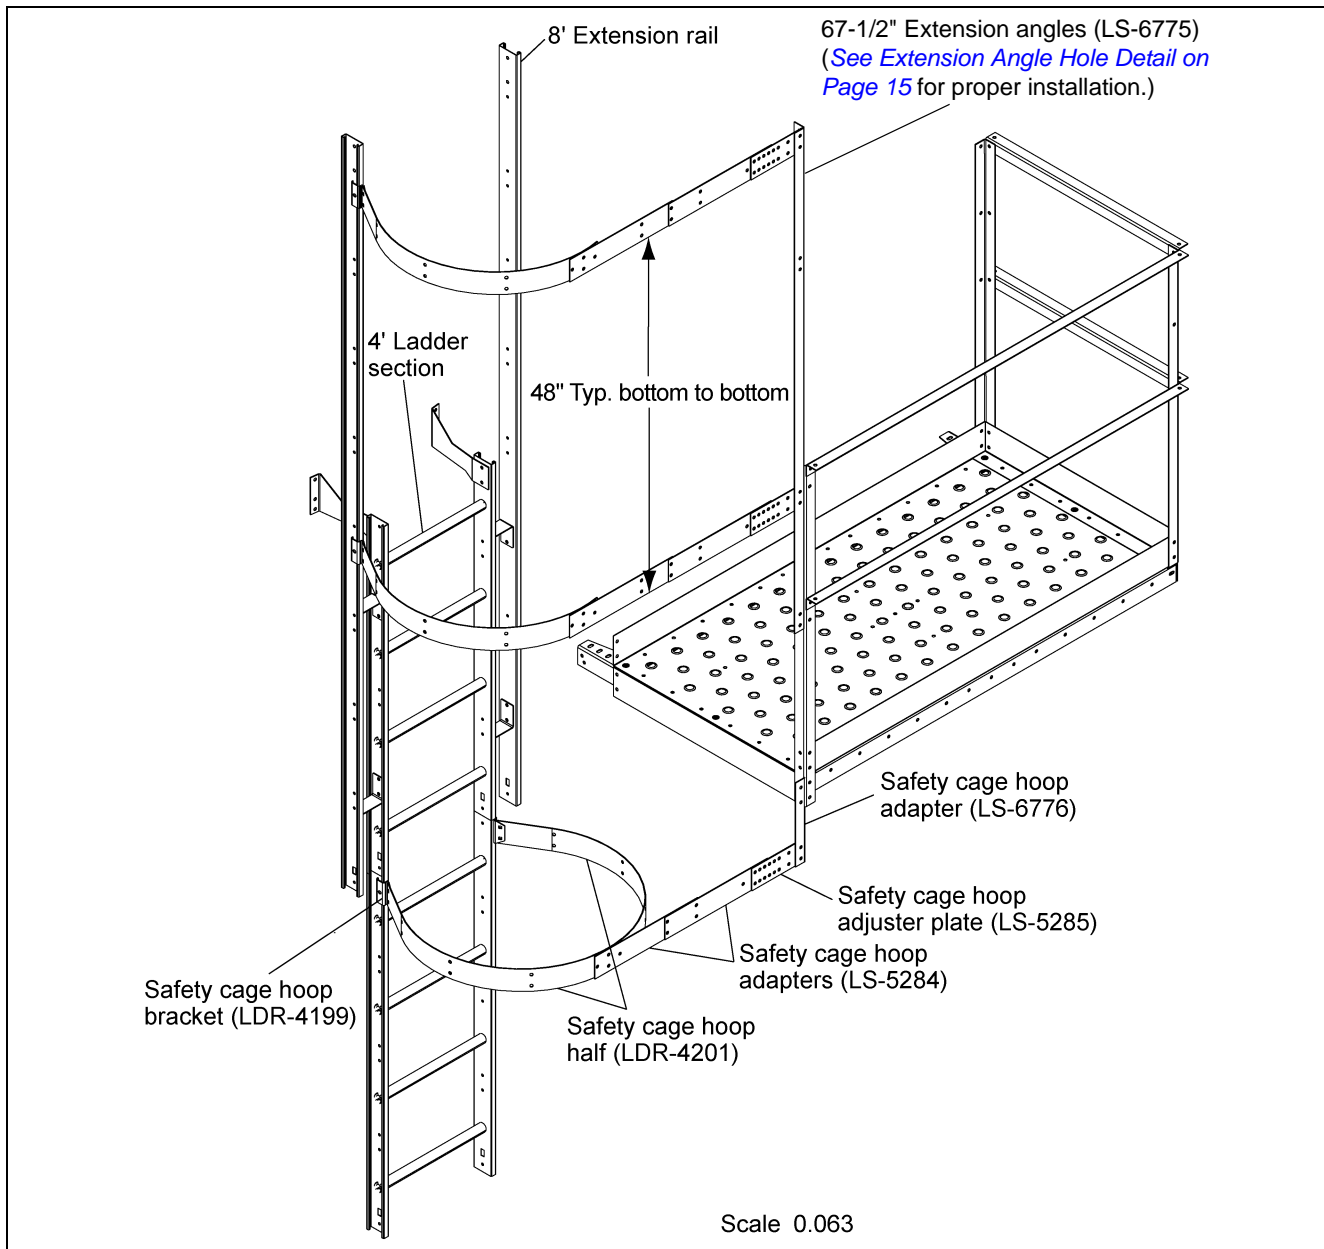

Figure 5K
Before attaching any pieces to the ladders or platform, some pre-assembly is required. Attach two (2) safety cage brackets to the 8' extension rail and one (1) safety cage bracket to the second 4' ladder section as shown in Figure 5K. Bolt the safety cage hoop adjuster plates onto the extension angle as shown in Figure 5K. Using the proper configuration depending on the bin diameter (See Adapter Assembly Detail on Page 30), bolt the safety cage hoop adapters together and attach to the safety cage hoop halves. Be sure to use the 5/16" x 3/4" bolt with the head of the bolt to the inside of the safety cage. Bolt these assemblies to the safety cage brackets and hoop adjuster plates (See Connection Detail on Page 30 for proper hole location). Tighten bolts as you go. The bottom assembly requires two (2) hoop halves and will be positioned just below the platform as shown in Figure 5K. Use the safety cage hoop adjuster angle to secure the two hoop half assemblies to the vertical entrance angle on the platform assembly.
**NOTE:** 48" vertical supports removed in Figure 5K for clarity.
Attach the vertical support pieces to the existing hoop halves using the 5/16" x 3/4" bolts and nuts (with the heads on the inside of the cage). Fasten two (2) hoop halves together and bolt to other end of vertical supports. Attach cage hoop brackets to ladder, Refer to Figure 5K on Page 29 for proper attachment. Once cage hoop brackets have been installed, attach cage hoop halves and tighten bolts. Repeat installation for each safety cage required.
Before attaching any pieces to the ladder or platform, some pre-assembly is required. Attach the safety cage brackets to the ladder section. (See Figure 5K on Page 29.) Bolt the safety cage hoop adjuster plates onto the extension angle as shown in Figure 5T. For the middle hoop assembly, bolt the safety cage hoop adapters and safety cage hoop half together using the proper holes, based upon the bin diameter. (See Page 30.) Be sure to use the 5/16" x 3/4" bolt with the head of the bolt to the inside of the safety cage. Bolt this assembly to the safety cage bracket and hoop adjuster plate, tighten as you go. The bottom assembly requires two (2) hoop halves and will be positioned just below the platform as shown in Figure 5T. Use the safety cage hoop adjuster angle to secure the two (2) hoop half assemblies to the vertical entrance angle on the platform assembly. To finish the installation, secure the access door platform assembly to the existing safety cage assembly using the safety cage hoop adapters as shown in Figure 5T.
Attach the vertical supports to the hoop half assembly from the final safety cage installation using 5/16" x 3/4" bolts and nuts (with the heads on the inside of the cage). Assemble the special bell safety cage hoop halves and attach to other end of vertical supports. The vertical support must be bent at the flat area to allow for the angle of the bell section. Attach the safety cage brackets to the ladder as shown in the Figure 5K on Page 29. Once the safety cage brackets are installed, attach the bell safety cage hoop half assembly to the safety cage brackets and tighten bolts.